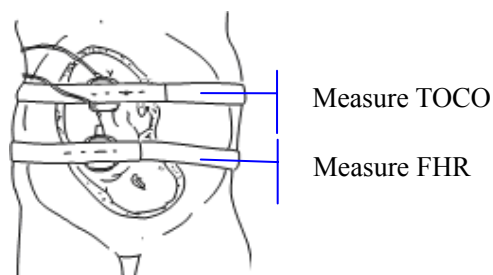

Figure 7-1: Ultrasound transducer & TOCO transducer positioning (single fetus)
- 2) To acquire the FH signal, search for the location of the fetal heart using a stethoscope or a fetoscope. Apply ultrasonic gel on the transducer and move it slowly around the abdomen until a clear heartbeat sound of the fetal heart is heard. Refer to Figure 7-1 for the transducer position.
- 2) Set the TOCO baseline. Place the transducer on the patient's fundus to get an optimum recording of uterine activity. Refer to Figure 7-1 for the TOCO transducer position.